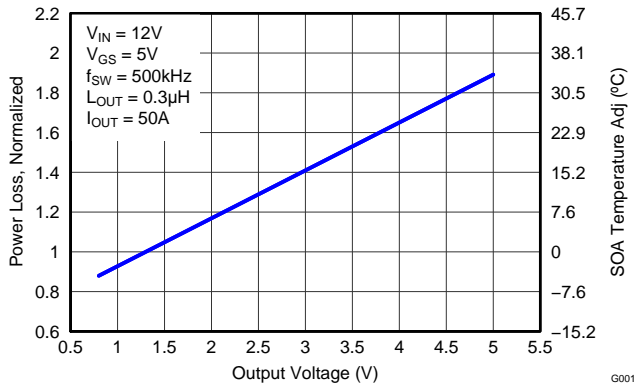

Figure 8. Normalized Power Loss vs. Output Voltage
- Normalized Power Loss for output voltage ≈ 0.90 (Figure 8)
- SOA adjustment for output voltage $\approx -2.5^\circ\text{C}$ (Figure 8)